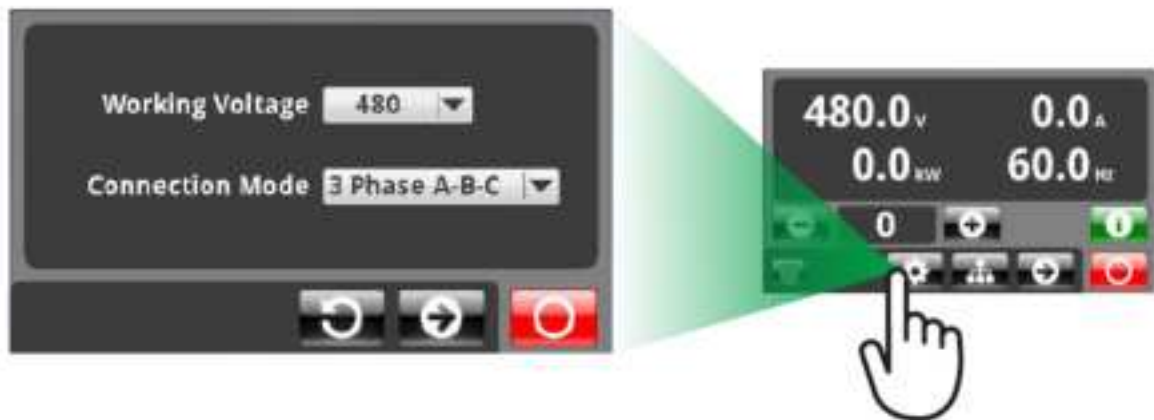

Figure 5-9: Hand-Held Controller Settings
- From the main screen press Setting as shown in figure 5-9.